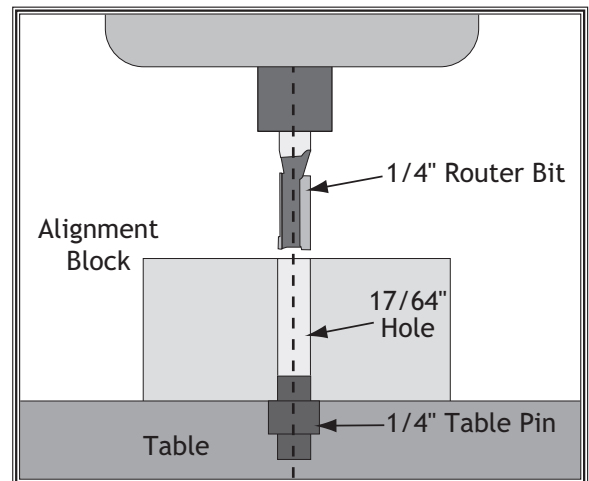

Figure 13. Shop-made alignment block being used to align router with table pin.
7. Loosen the four cap screws that mount the support arm to the base, align the router bit to the hole in the scrap piece of wood as shown in **Figure 13**, and tighten the four cap screws.